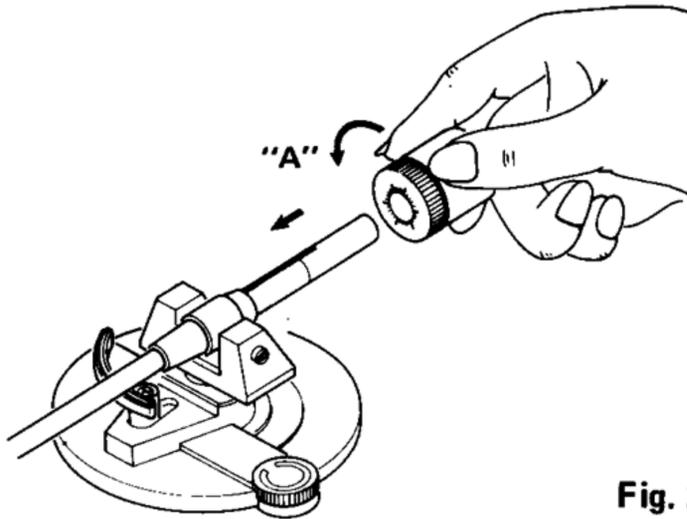

Fig. 2 Abb. 2
1. Remove the vinyl ribbon ① fixing the tonearm.
2. Remove the screw ② to dismount the spacer ③ and the counter-weight ④
3. Remove the screws ⑤ ⑥ and spacers ⑦ ⑧
4. Slide the counterweight ④ onto the weight axis by turning the counterweight to "A" direction, as in Fig. 2.